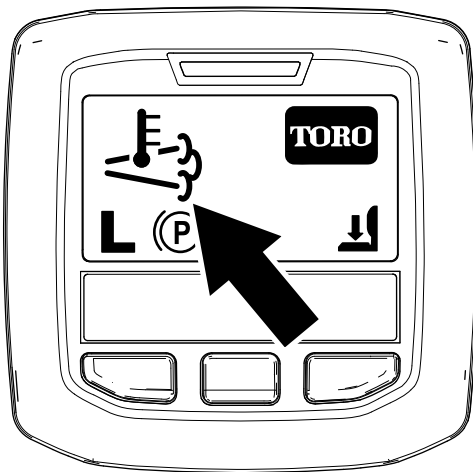

Figure 38
- The high exhaust-temperature icon  displays in the InfoCenter (Figure 38).